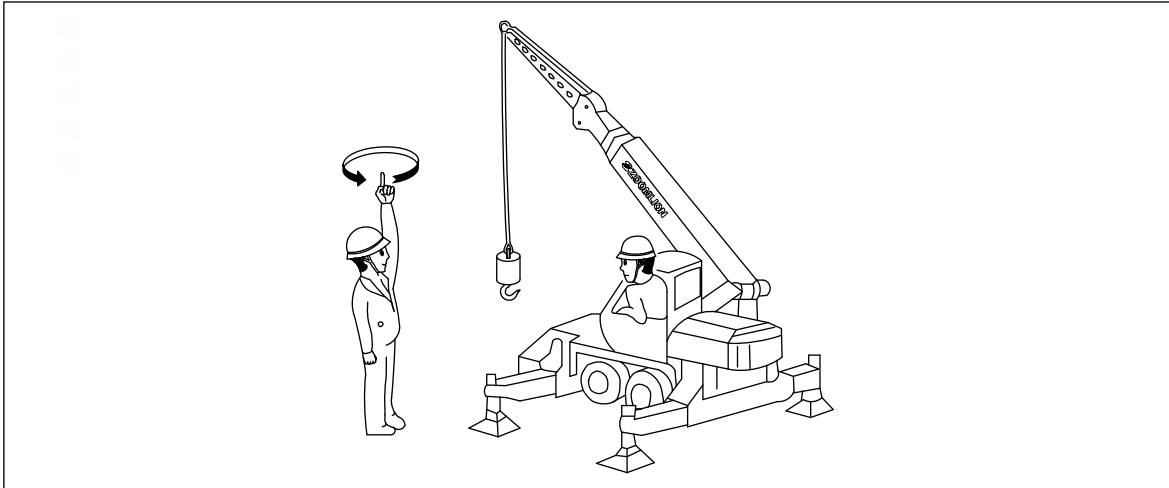

Figure 7-48 Signal Personnel
- When you remove the auxiliary hook and put it in the stow position, obey the hand signals from the signal personnel. Refer to Figure 7-48.